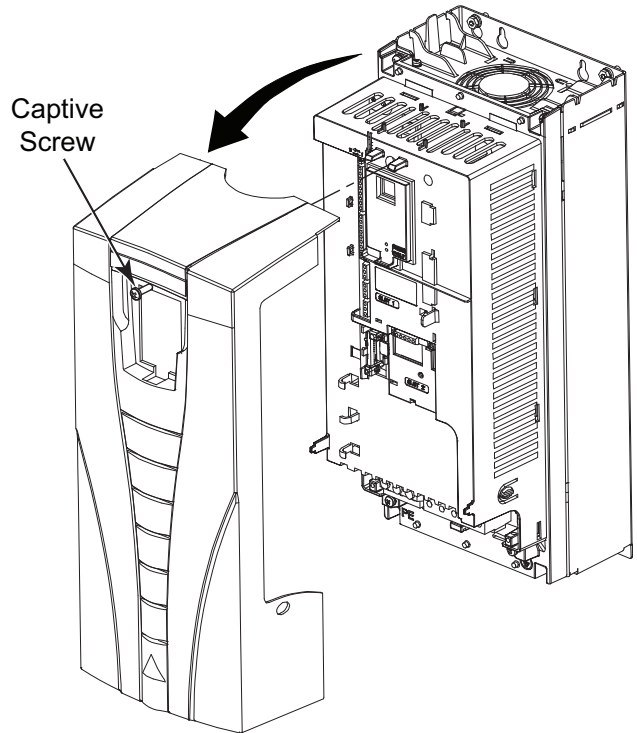

Fig. 39 — Remove ACH550 VFD Front Cover
2. Remove the drive cover (see Fig. 39).